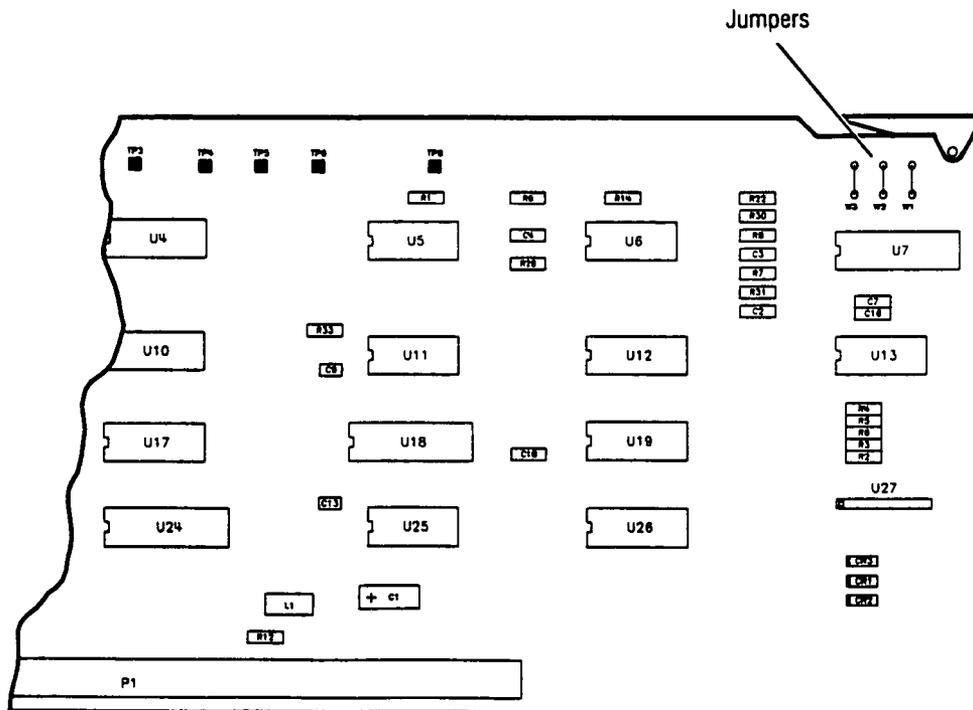

Figure 8. Jumper Locations on the A59 Digital Interface Assembly
44. On the A59 digital interface assembly, inspect jumpers W1, W2, W3 (see Figure 8).